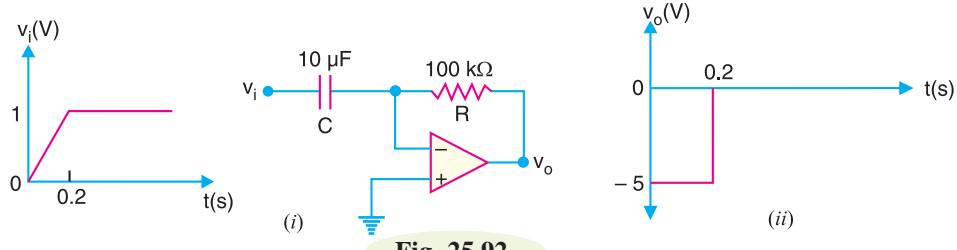

Fig. 25.92
**Example 25.56.** For the differentiator circuit shown in Fig. 25.92(i), determine (i) the expression for the output voltage (ii) the output voltage for the given input.
(i) For the differentiator shown in Fig. 25.92 (i), the output voltage is given by;
Therefore, between 0 to 0.2s, the output voltage is constant at -5 V. For  $t > 0.2s$ , the input is constant so that output voltage is zero. Fig. 25.92 (ii) shows the output waveform.